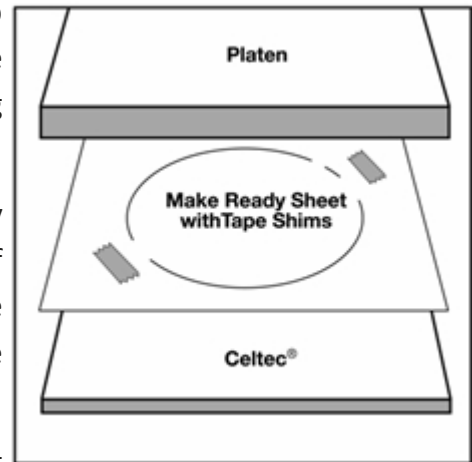

Figure 1i
- When dies include intricate patterns and / or sharp bends, more pressure will be required to make the cut. Additional tape shims to build up the cutting plate may be needed in these areas (Figure 1i).